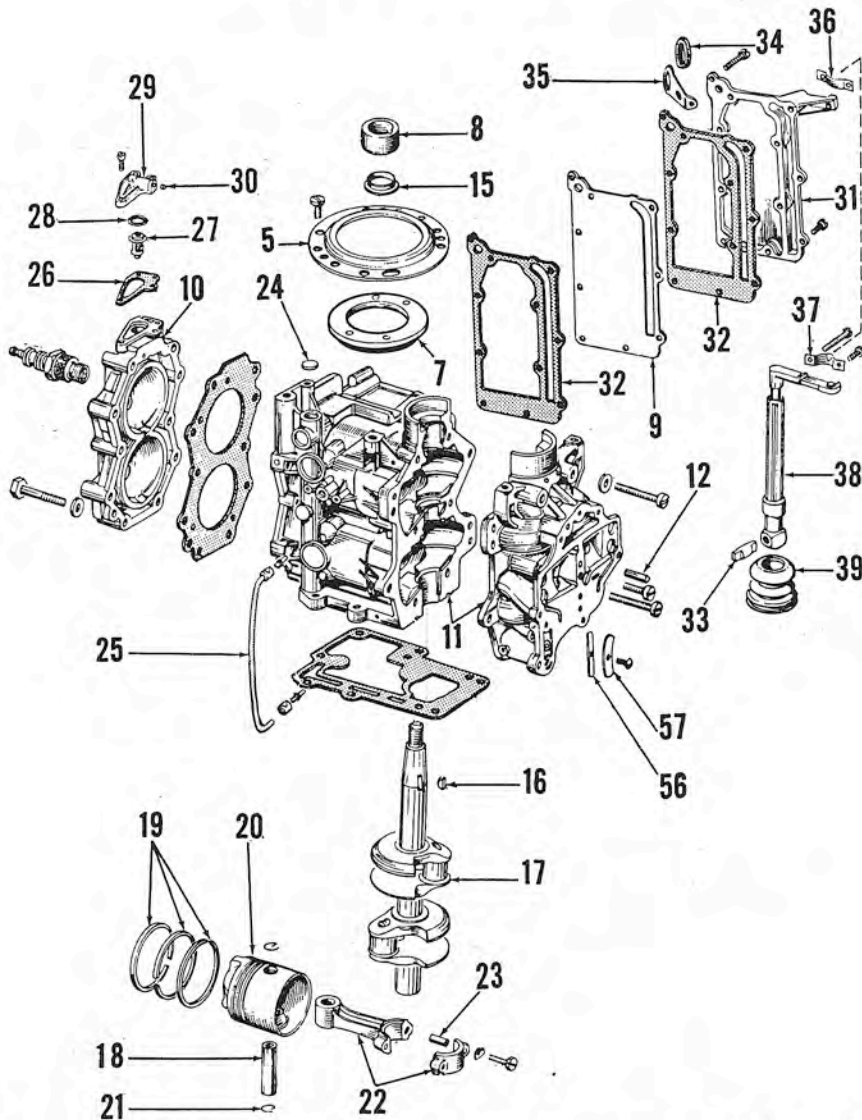

Fig. J17—Exploded view of series CD power head, Coolant thermostat (26 through 30) is not used on motors before 1959.
CRANKCASE BLEEDER VALVE. Models CD, AD, QD and FD are equipped with a reed type bleeder valve (56 & 57—Fig. J17, J19 or J20), designed to remove any liquid fuel or oil which might build up in crankcase. The bleeder valve thus provides smoother operation at all speeds and lessens the possibility of spark plug fouling during slow-speed operation.
THERMOSTAT. All 1959 and later motors except JW series are equipped with a cooling system thermostat. Refer to (27—Fig. J17 and J19). Thermostat opening temperature should be 130-150 degrees F.
Series CD Motors. Clamp the motor to a convenient support and remove the shroud, control panel and intake silencer. Remove starter unit, flywheel, magneto armature plate, carburetor and inlet manifold. Refer to Fig. J17.
Fig. J18—Exploded view of series AD power head assembly. Tube (25) directs excess oil that has drained to bottom crankcase, up to top main bearing to provide lubrication. Refer to legend under Fig. J17 except for (40), which is one of the two transfer passage covers.